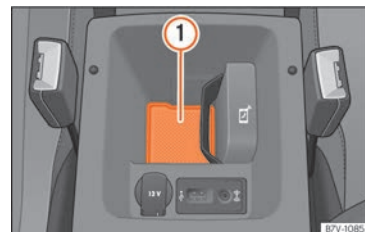

Fig. 231 The phone holder used for connecting the mobile phone to the car aerial is located in the front centre armrest.
For the connection to the aerial of the vehicle, the mobile phone must be on the lodging surface » Fig. 231 ①.